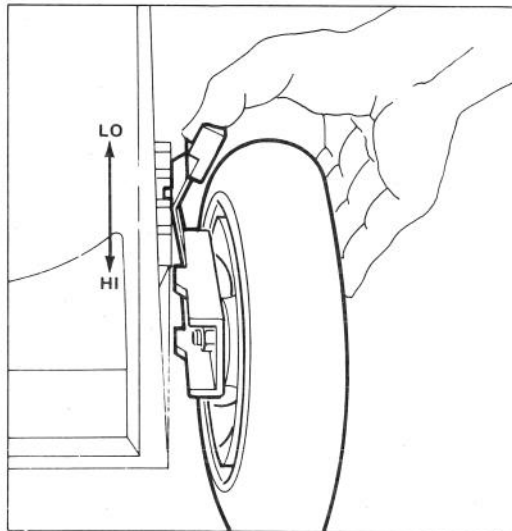

Figure 10
2. For easier adjustment, lift housing up so wheel is off ground. Squeeze adjusting lever toward wheel and move them to desired setting (Fig. 10). Assure pin on adjusting lever engages notch in mower housing wear plate. Adjust all wheels to the same setting.